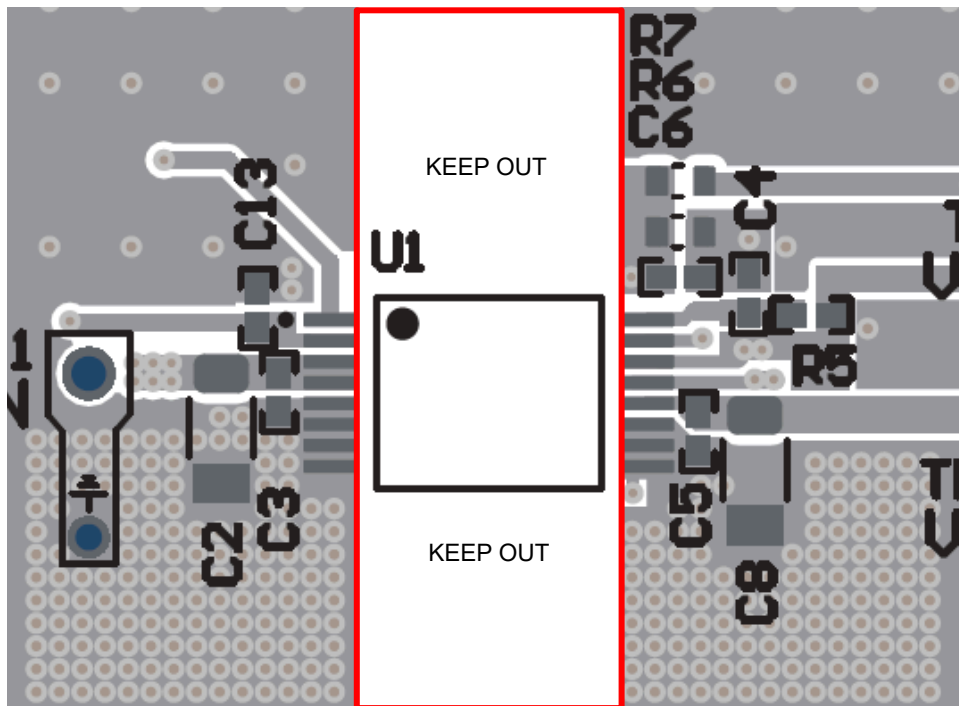

Figure 8-8. Isolation Keep Out Region
6. Creepage clearance: To maintain the full creepage, clearance and voltage isolation ratings specified in the data sheet, avoid routing signal traces or placing components directly under the UCC34141-Q1. Maintain the clearance width highlighted in red, throughout the entire defined isolation barrier. Keep-out clearance for basic isolation can be 50% less than the reinforced isolation requirement (8.2mm). Using 8.2mm provides additional margin. A layout example is shown in Figure 8-8.